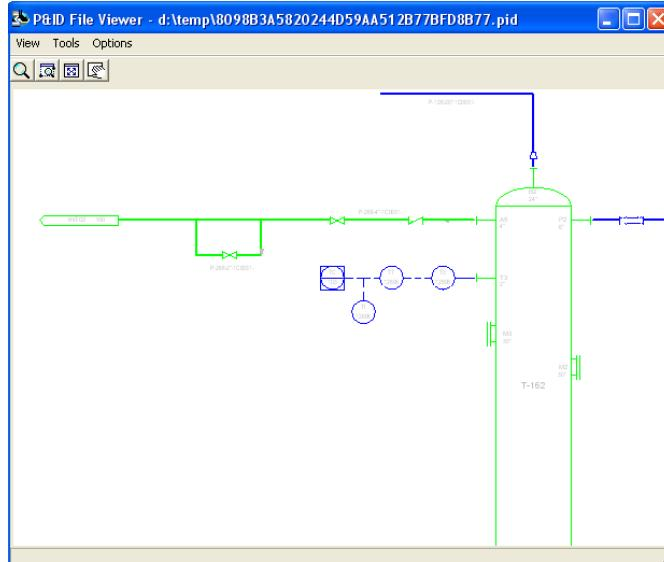

Figure39: Correlation Status of the Placed Pipe Section in the P&ID File Viewer Window
33. Now, open the **P&ID INT01** drawing. The pipe section you placed is highlighted in green, as shown in Figure 39, which indicates that the pipe section and the OPC now are correlated and its properties and topology match the design basis.